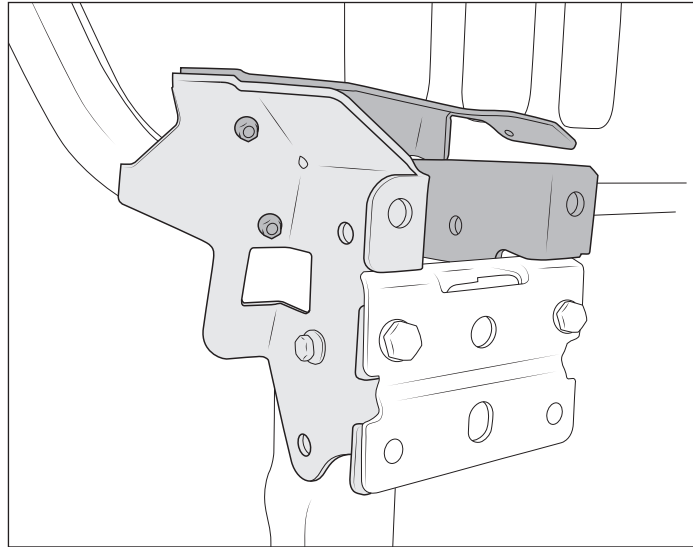

Figure 4
3. From the back-side of the brackets, install black M8x25mm hex head flange bolts and nuts tying the inboard and outboard brackets together. By leaving the brackets loose on the frame, they can be manipulated in order to clear the grill with the bolts (fig. 4). The grill can also be flexed slightly to clear the bolts during installation.